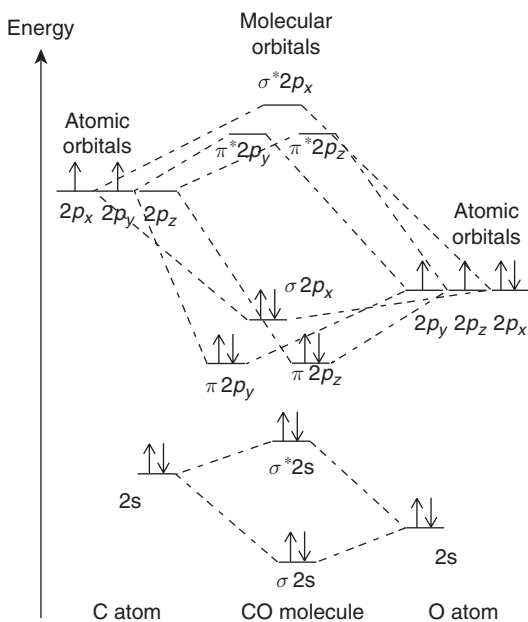

Figure 20 MO diagram of CO.
3. **CO molecule:** The MO diagram (Figure 20) for the diatomic carbon monoxide (CO) shows that it is isoelectronic with nitrogen (N2).